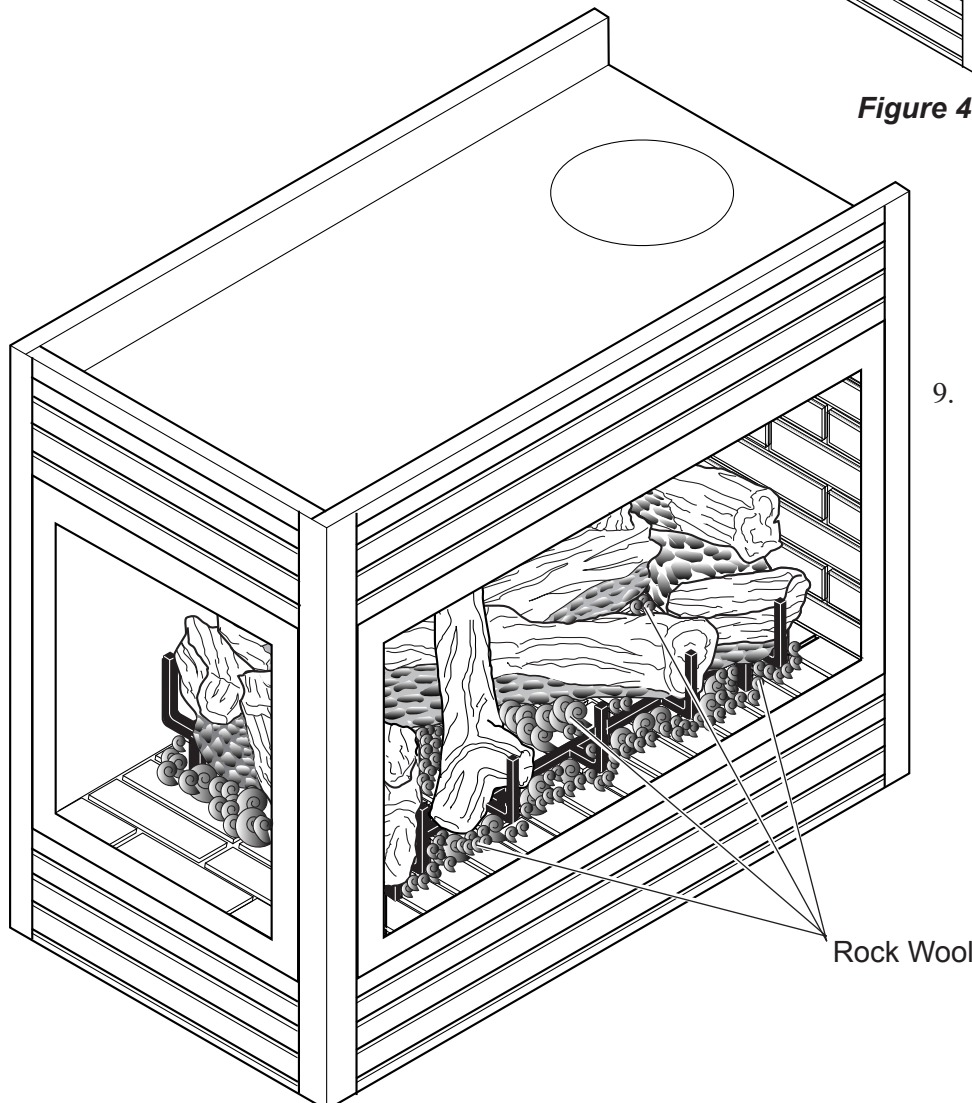

Figure 50 - Rock Wool Placement
- Break up rock wool (ember material) into dime-sized pieces. Place evenly across burner surface and mesh of grate. See Figure 50. Do not exceed 1" depth of coverage.